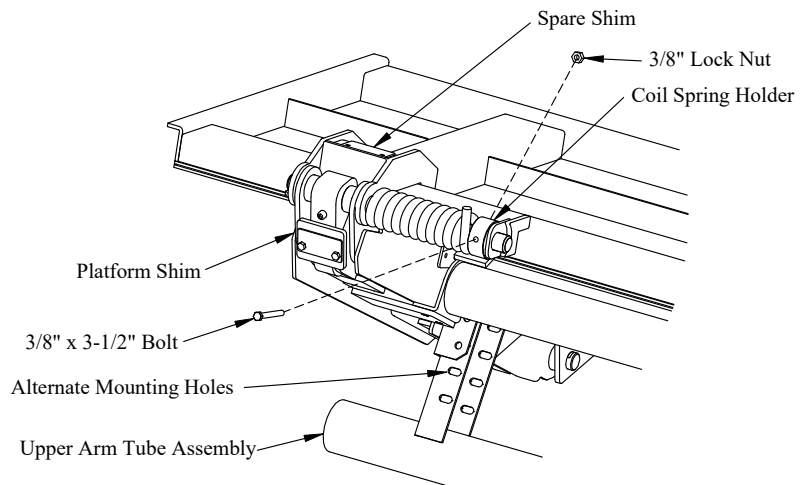

Figure 11: Platform springs and shims.
21. **Move** the upper arm tube assembly to the alternate mounting holes if it contacts the ground. (Figure 11).
25. **Install** a 3/8" x 3-1/2" hex head bolt and lock nut in each coil spring holder (Figure 11). The platform must be in the stowed position so that the springs will engage as the platform is lowered.